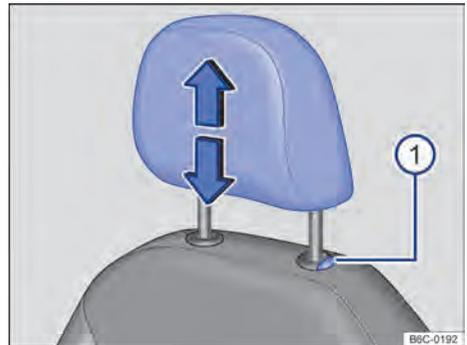

Fig. 65 Front seat head restraint: removal.
- Press and hold → Fig. 65 ① to remove the head rest.
- Push the head restraint fully downward while holding the → Fig. 65 ① button pressed.